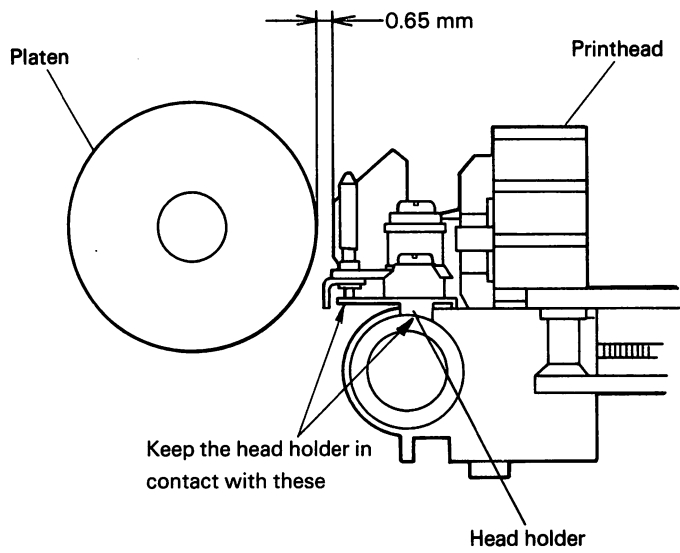

Fig. 4-30. Platen Gap
5. Verify the positions of the head holder and shaft holder according to Fig. 4-30.